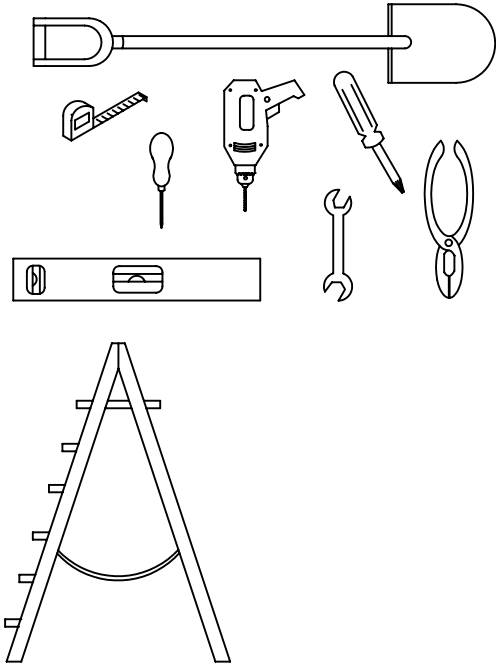

FIG. 1
1. WEATHER WARNING ! DO NOT ERECT YOUR BUILDING ON A WINDY DAY. ANY BUILDING LEFT PARTIALLY CONSTRUCTED MAY BE SERIOUSLY DAMAGED (FIG. 1).
2. ALL ASSEMBLY OPERATIONS MUST TAKE PLACE ON A COMPLETELY LEVEL SURFACE (FIG. 1)
1. TEMPÊTE DE VENT: NE JAMAIS MONTER VOTRE ABRI PAR GRAND VENT. NE PAS LAISSER UN ABRI PARTIELLEMENT MONTÉ, LES PIÈCES POUVANT ÊTRE ENDOMMAGÉES (FIG. 1).
2. TOUTES LES OPÉRATIONS DE MONTAGE DOIVENT ÊTRE RÉALISÉES SUR UNE SURFACE PLANE (fig 1).
1. AVISO DE TEMPESTADE! NÃO PROCEDA À MONTAGEM DO SEU ABRIGO NUM DIA VENTOSO. QUALQUER ABRIGO DEIXADO PARCIALMENTE MONTADO PODE FICAR SERIAMENTE DANIFICADO (FIG. 1).
2. TODAS AS OPERAÇÕES DE MONTAGEM DEVEM SER EFECTUADAS NUMA SUPERFÍCIE COMPLETAMENTE NIVELADA (FIG. 1).
1. PRESTE ATENCIÓN A LA METEOROLOGÍA. NO INTENTE LEVANTAR EL EDIFICIO EN UN DÍA DE VIENTO. CUALQUIER COMPONENTE QUE QUEDA A MEDIO MONTAR PUEDE SUFRIR DAÑOS IMPORTANTES. (FIG. 1).
2. TODAS LAS OPERACIONES DE MONTAJE DEBEN DE REALIZARSE SOBRE UNA SUPERFICIE TOTALMENTE PLANA Y AL MISMO NIVEL. (FIG. 1)